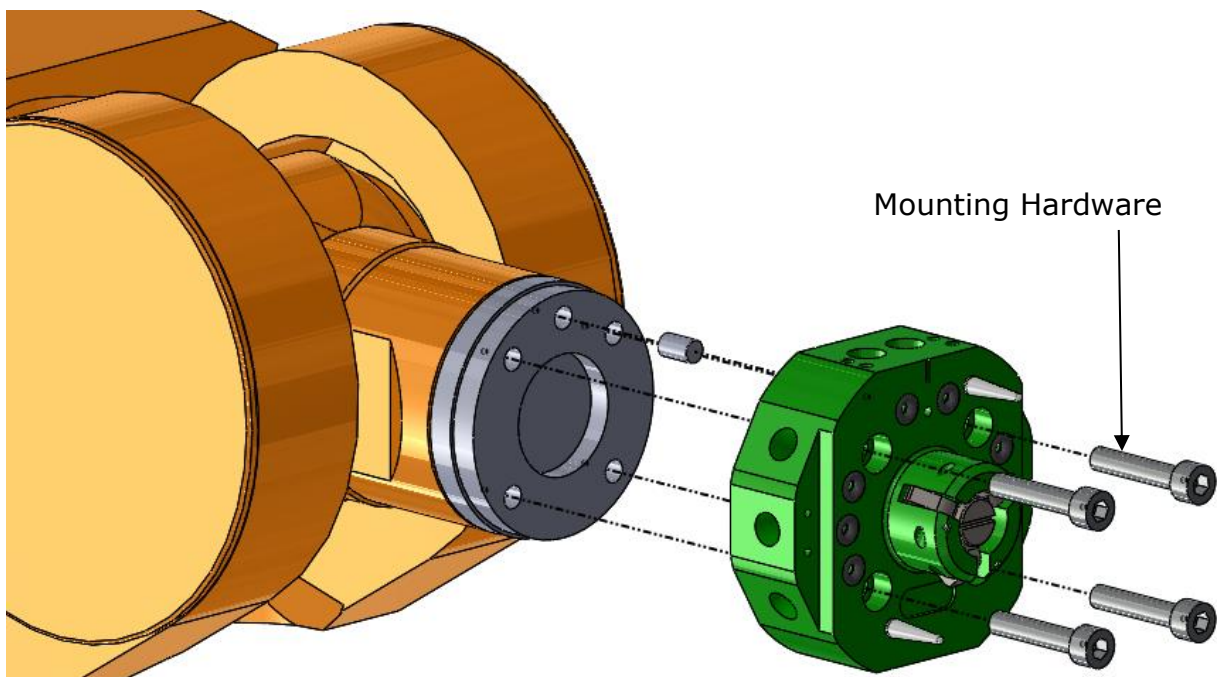

Figure 5.1-1. E50 Robot Side Installation w/ M6 Hardware
1. Locate the Robot Side to the manipulator mounting flange utilizing the locating boss and one (1) M6 locating dowel (Figure 5.1-1).